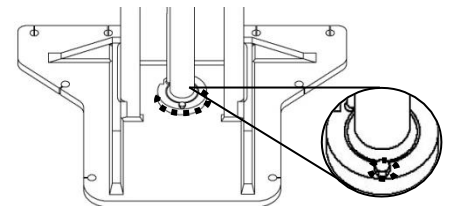

FIGURE 18 : LUBRIFICATION BASE DU CYLINDRE
2. LUBRICATE THE EDGE BETWEEN THE CYLINDER BASE AND COLUMN BASE, AND THE BOLT OF THE CYLINDER BASE WITH AUTOMATIC TRANSMISSION OIL. SEE **FIGURE 18** IN DOTTED LINE.